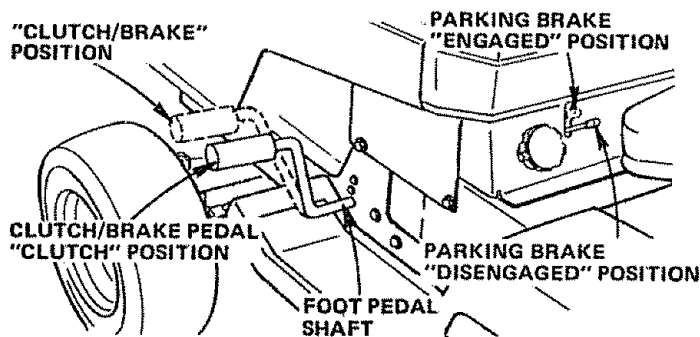

FIGURE 8
2. Push Clutch-Brake Pedal fully into brake position (Fig. 8).
2. Push Clutch-Brake Pedal down firmly (Fig. 8). Move Gear Shift Control Lever to desired gear and Range Shift Lever to "LO" (Low) position (Fig. 9).